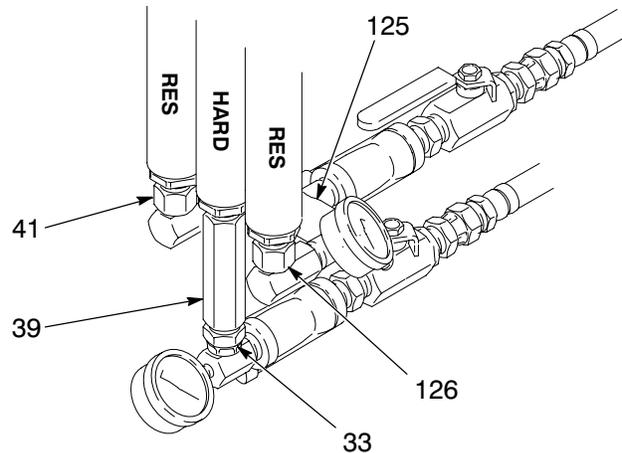

Fig. 21
Unscrew the swivel union (33) from the bottom of the center displacement pump. Unscrew the swivel unions (126) from the outer displacement pumps. Remove the supply manifold (125) from the outer pumps. Unscrew the straight union (39) from the center displacement pump. See Fig. 21.
1. Unscrew the swivel union (33) from the bottom of the center displacement pump. Unscrew the swivel unions (126) from the outer displacement pumps. Remove the supply manifold (125) from the outer pumps. Unscrew the straight union (39) from the center displacement pump. See Fig. 21.